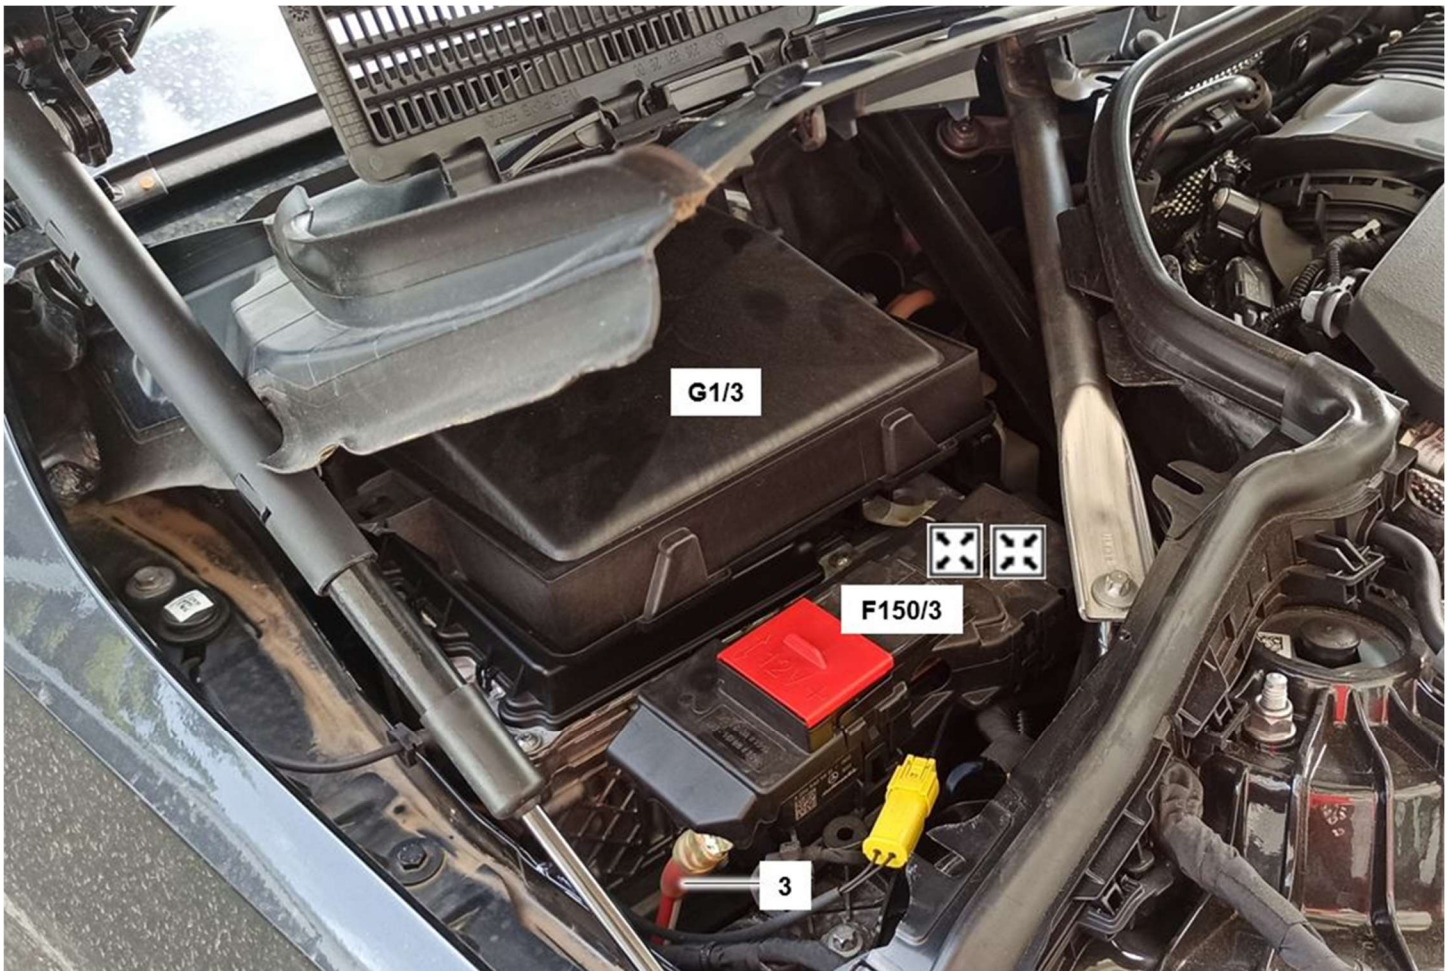
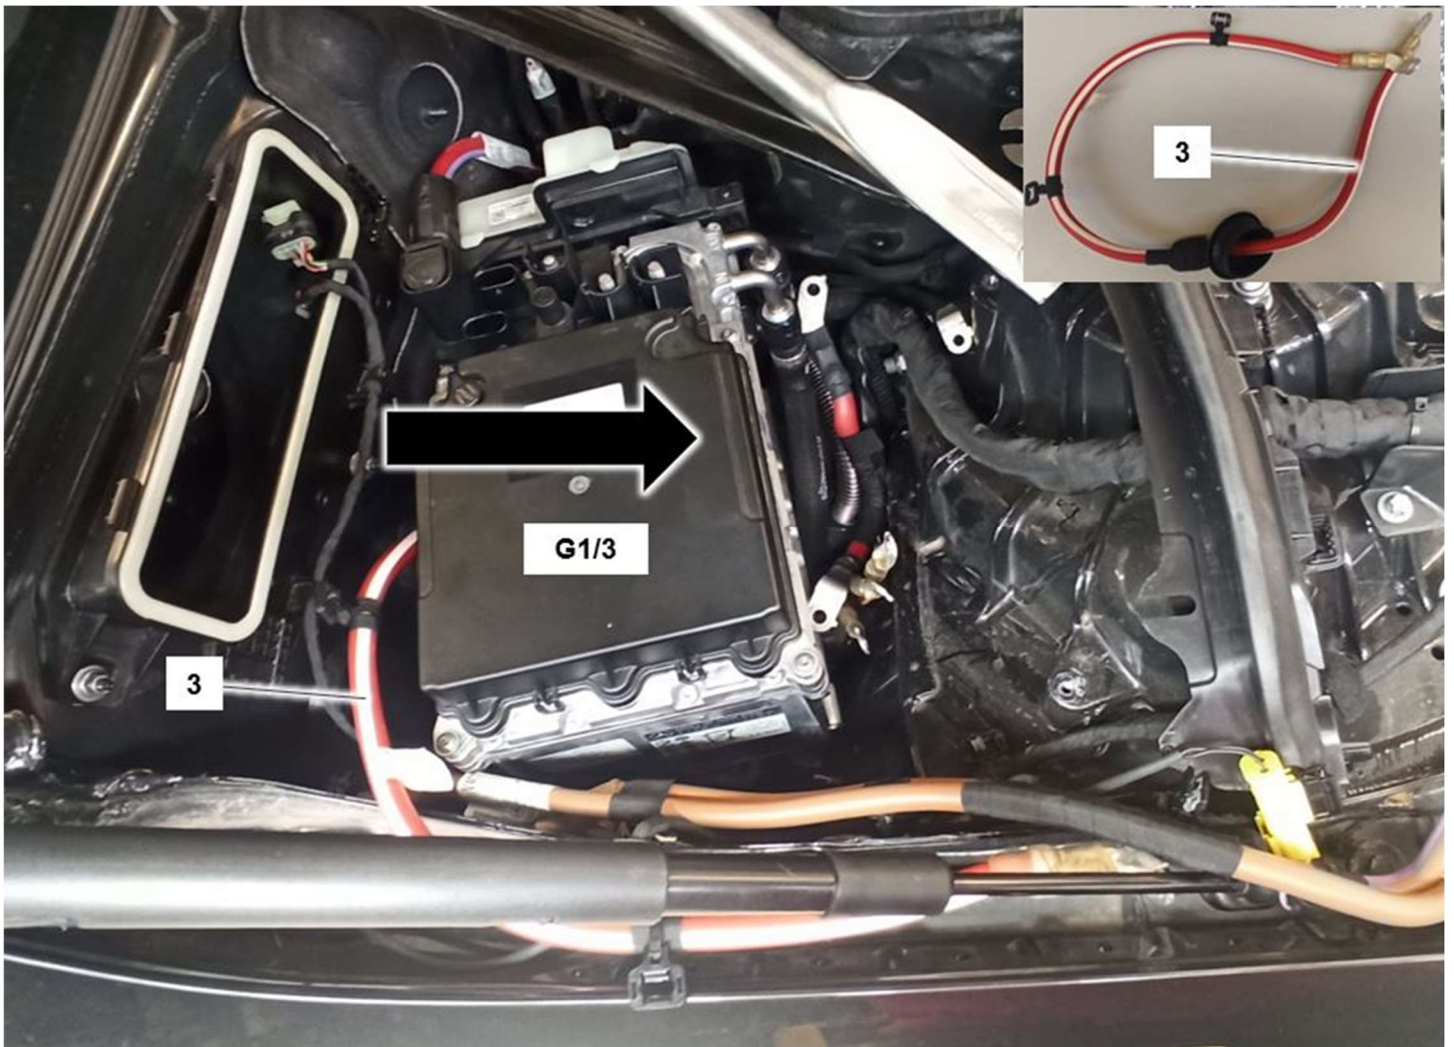

Figure 3 (passenger side of engine compartment)
Figure 4 (passenger side of engine compartment)
- Work Procedure Step 1 updated, Figure 3 changed, Operation Item 12-2179 description updated.
i Replace damaged electric line (Figure 3 and 4, 3):
To do this, completely remove the front prefuse box (Figure 3, F150/3) in the engine compartment (for basic information, see AR54.15-P-1330WT), and then push the 48 V battery (Figures 3 and 4, G1/3) to the side (Figure 4, direction of arrow) with only the coolant lines attached (for basic information, see AR54.10-P-0022WT).
i If replacing electric line (Figure 4, 3), it is not necessary to remove the coolant lines or drain the coolant for the 48 V battery G1/3.
i The necessary electric line (Figure 4, 3) is included in the electrical wiring harness parts package. Only the electric line (Figure 4, 3) is needed from this electrical wiring harness. The extra wiring harness in the parts package can be disposed of in accordance with applicable regulations.
** **The necessary electric line is included in the electrical wiring harness parts package. Only the electric line (shown in Figure 4, 3) is needed from this electrical wiring harness. The extra wiring harness in the parts package can be disposed of in accordance with applicable regulations.**